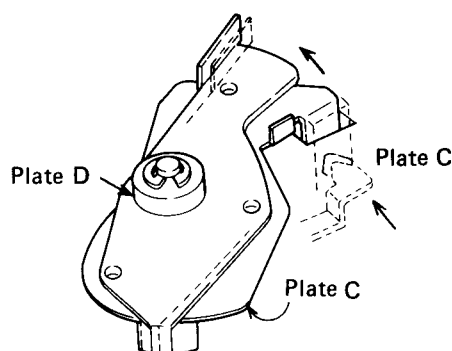

Fig. 4-5 Auto-return detection 2
2. Plate A pushes plate C by an amount directly proportional to the amount of movement of the tonearm (Fig. 4-5).